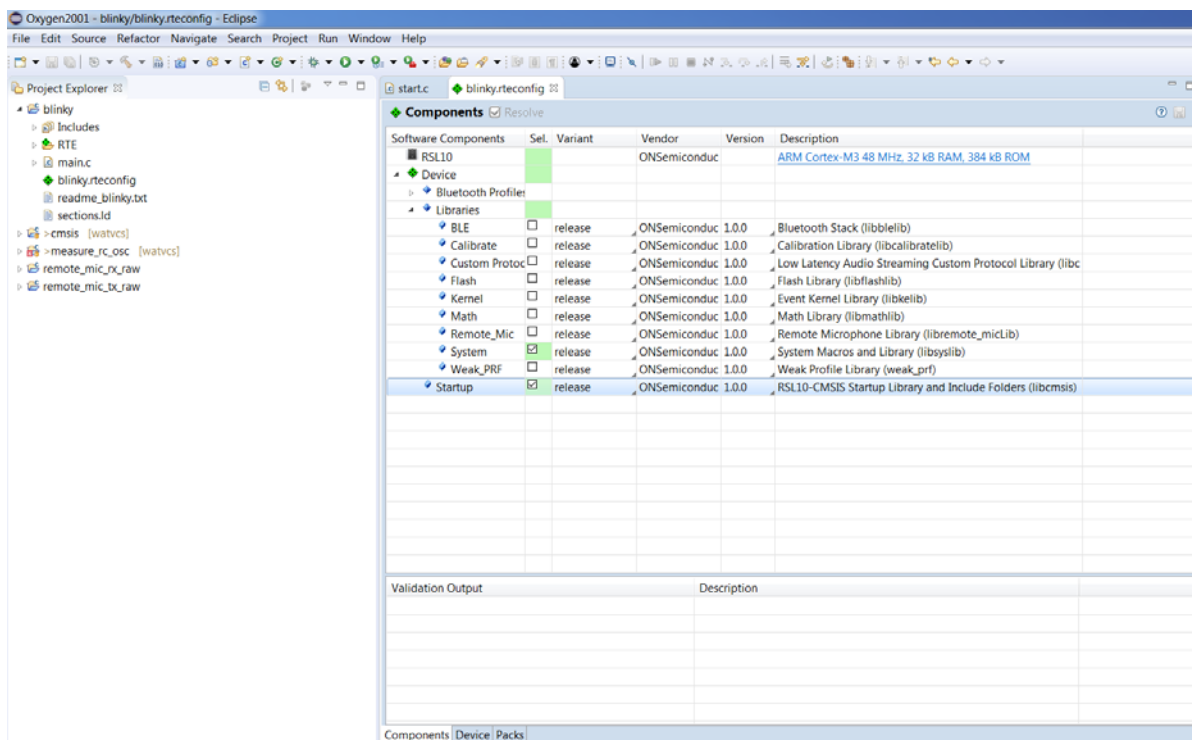

Figure 7. RTE Configuration for the Blinky Example Project in the ON Semiconductor IDE
3. The C/C++ perspective opens and displays your newly copied project. In the **Project Explorer** panel, you can expand your project folder and explore the files inside your project. On the right side, the *blinky.rteconfig* file displays software components. If you expand **Device > Libraries**, you can see the **System library** (*libsyslib*) and the **Startup** (*libcmsis*) components selected for *blinky* (see Figure 7 on page 11).
NOTE: Sample projects are preconfigured with *Release* versions of RSL10 libraries, which are distributed as object files. In the RTE configuration, you can switch to the *Source* variant to include the source code of the library directly into your project (see Figure 7 on page 11).